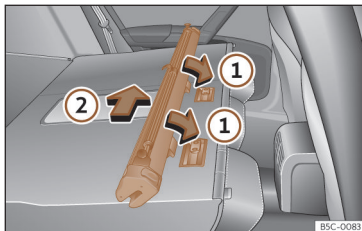

Fig. 183 Assembling the net partition in the rear seat backrests.
- Place the net casing in the rail slots in the direction of the arrows >>> **Fig. 183 ①**.
- Push the casing towards the left side of the vehicle in the direction of arrow >>> **Fig. 183 ②**.
- Pull the net casing out approximately 5 cm in the opposite direction to the arrow >>> **Fig. 183 ②**.
- Remove the casing from the rails by pulling in the opposite direction to the arrows >>> **Fig. 183 ①**.